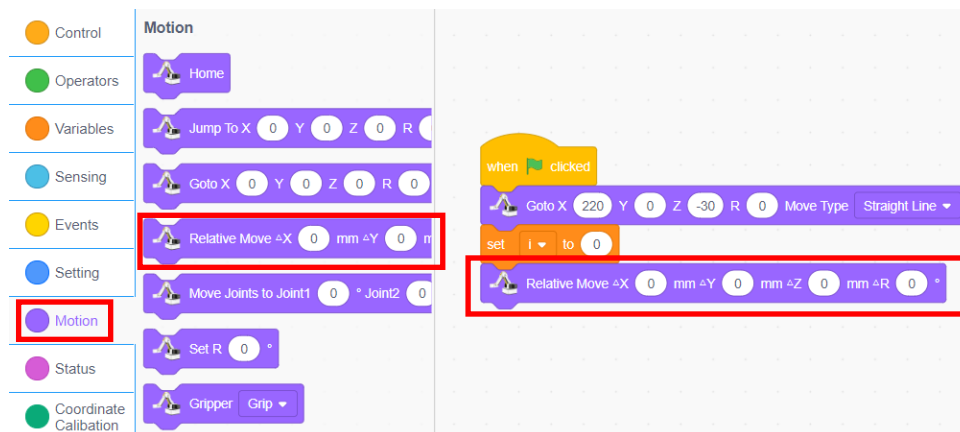

Figure 2.7 Relative motion blocks
- 1) Click the "Motion" tab and drag the "Relative Move" block to the code area, and put it together with the previous block, as shown in Figure 2.7.